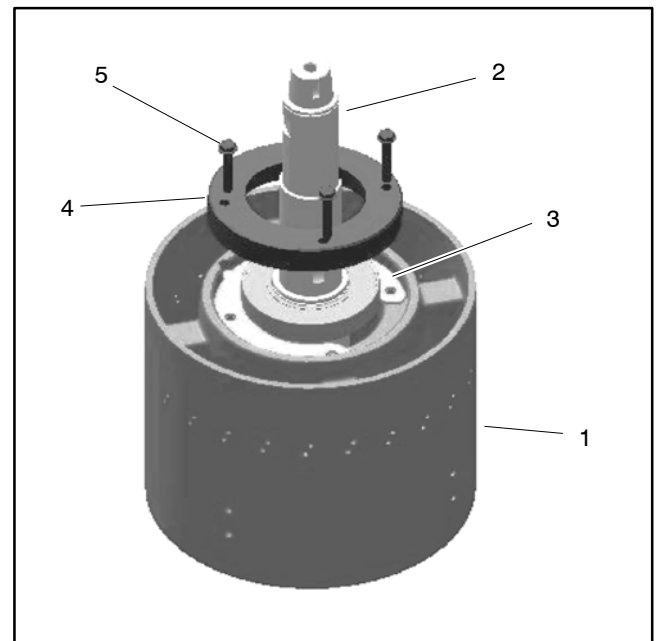

Figure 8
- A. Slide rear cap (item 8) into housing.
- B. Apply Loctite #242 (or equivalent) to threads of flange head screws (item 4).
- C. Secure rear cap to inner housing with flange head screws (item 4). Torque screws from **90 to 100 in-lb (10.2 to 11.3 N-m)**.
3. Install new O-ring (item 9) into inner housing. After O-ring installation, clean O-ring to remove all oil, grease or other material.
4. Position end cap (item 5) between bearings on rotor shaft.
5. Install rotor shaft assembly into inner housing. Align tab on end cap (item 5) and slot in inner housing as rotor shaft assembly is being inserted into inner housing. Make sure that end cap and bearing are fully seated in housing bearing bore. Also, align holes in end cap with threaded holes in inner housing.
6. Install bearing cap (item 4) into inner housing (Fig. 8):
- A. Slide bearing cap (item 4) into inner housing. Make sure that cap is fully installed onto rotor shaft bearing.
- C. Secure bearing cap to inner housing with flange head screws (item 7). Torque screws from **90 to 100 in-lb (10.2 to 11.3 N-m)**.